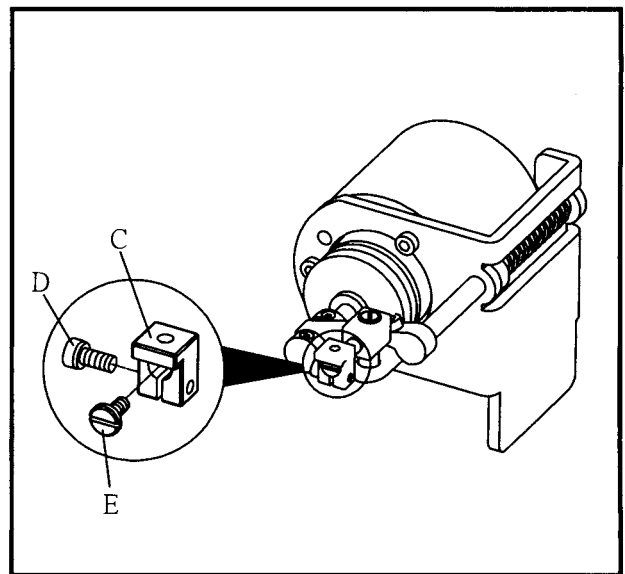

Fig.45
When you would like to adjust the right & left position of Moving knife First, please loose the screw (D) of connecting Block (C), to turn the screw (E) by screwdriver for micro adjusting the correct right & left position of Moving Knife., then to locked the screw (D) down. (Fig.45)